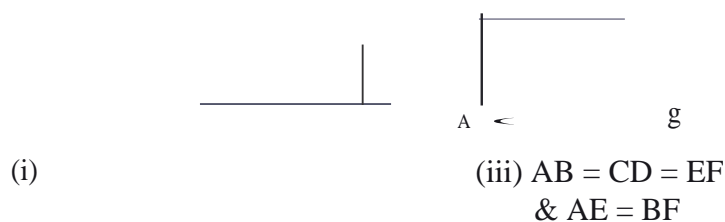

Fig.Q1(a)
- 1 a. Define 'degree of freedom' and find degree of freedom for the chains shown in Fig.Q1(a).